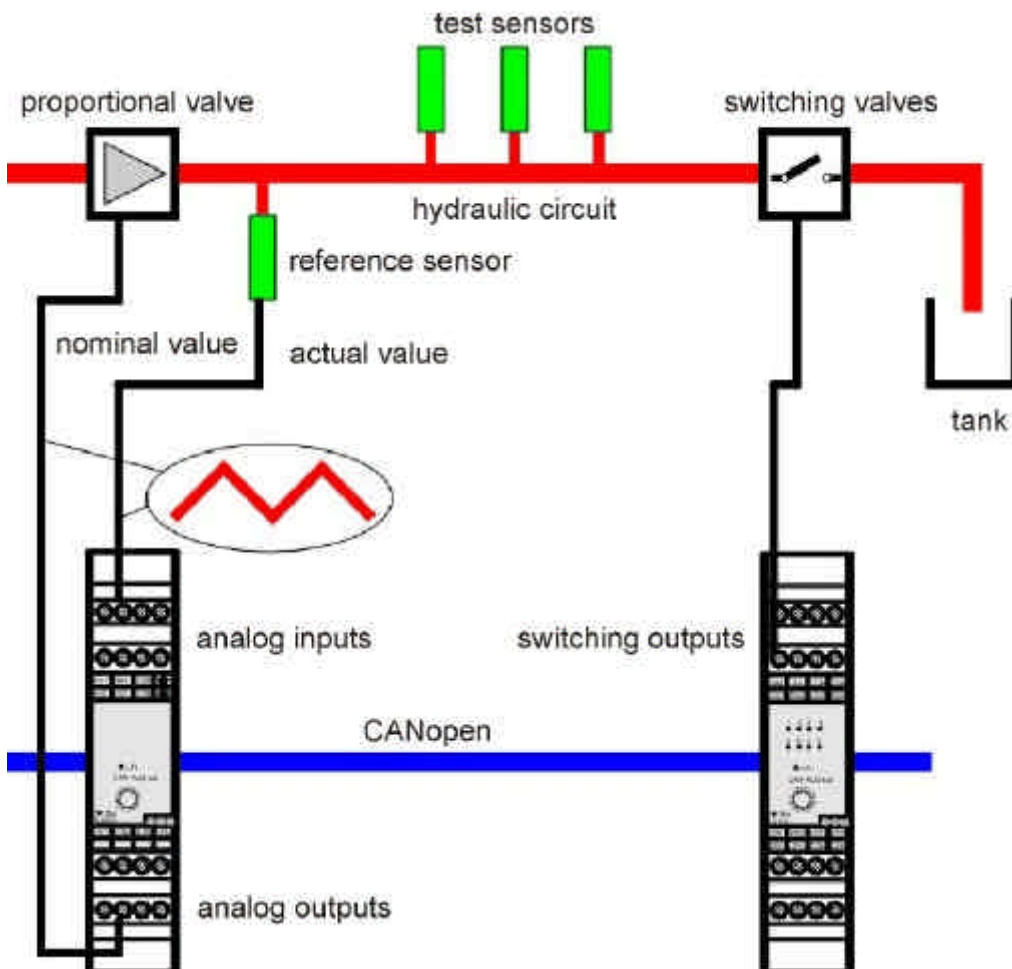

Fig. 2: diagram of circuits for signal generation and limit monitoring
- 1.) Due to the bad deterministic characteristics of a multimaster bus, a delta signal (see Fig. 2: red delta signal for setpoint and actual value) cannot be generated via a field bus without jitter. In the ECKELMANN AIO22 analog input/output module, the self-contained function Signal Generator can be called, whereby the PLC specifies the shape, frequency and amplitude. Afterwards the output of the signal shape takes place in the module independently of the PLC CPU.